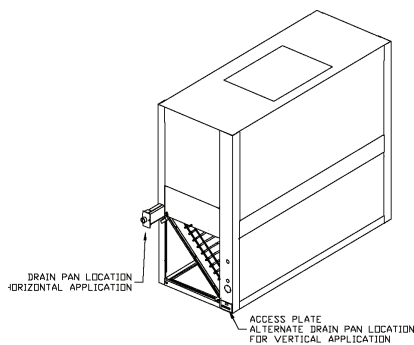

Figure 4.
**Note:** *Important! All air handlers are shipped with the drain pan installed in the horizontal position and the connection on the left side (as shown in Figure 4). If an alternate position is required, the drain pan should be repositioned before setting the air handler.*